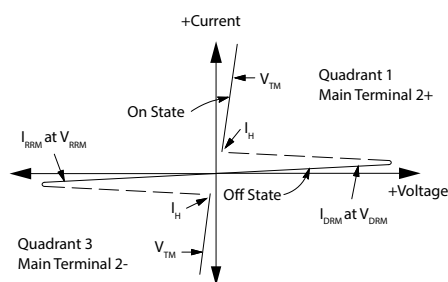

Figure 1. Current Derating
- Ratings apply for $t_w = 1$ ms. See Figure 1 for I_{TM} capability for various duration of an exponentially decaying current waveform, t_w is defined as 5 time constants of an exponentially decaying current pulse.
4. Ratings apply for $t_w = 1\text{ ms}$. See Figure 1 for I_{TM} capability for various durations of an exponentially decaying current waveform. t_w is defined as 5 time constants of an exponentially decaying current pulse.